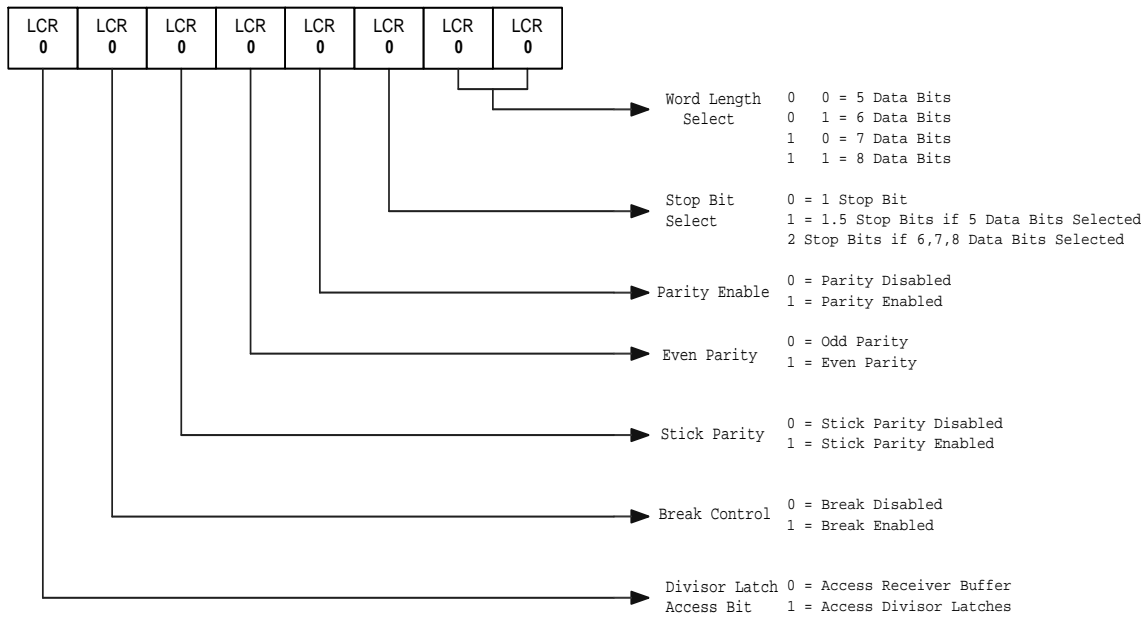

Figure 1. Line Control Register
- Bit 0, 1 : LCR0 and LCR1 are word length select bits. (see Figure 1)